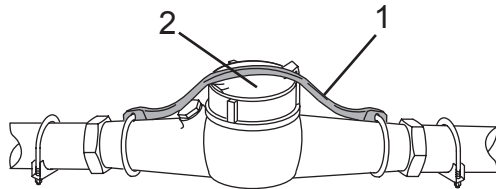

Figure 104
1. Slide the retaining strap (Figure 104, Item 1) to one side and open the cover (Figure 104, Item 2).
4. Close the cover (Figure 104, Item 2) and secure using the retaining strap (Figure 104, Item 1).